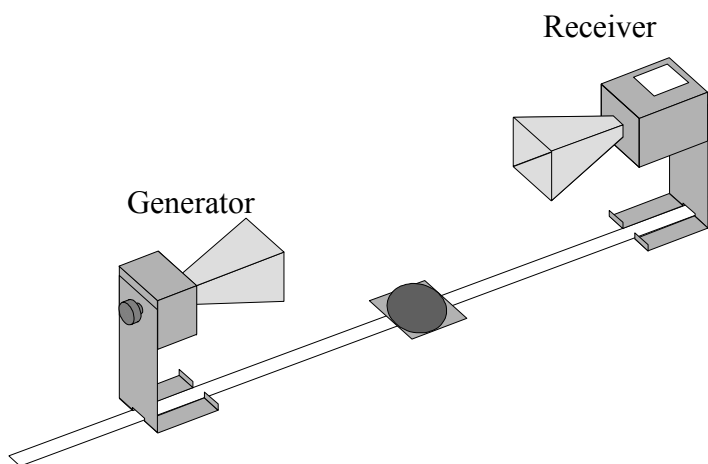

Fig. 6. Microwave generator and receiver arrangement.
1. Refer to Fig. 6. Place the generator on the main arm of the goniometer such that entrance to the "horn" is between 30-40 from the goniometer's hinge (at the center of the circle). Place the receiver on the goniometer's shorter arm so that its horn is about the same distance from the hinge.